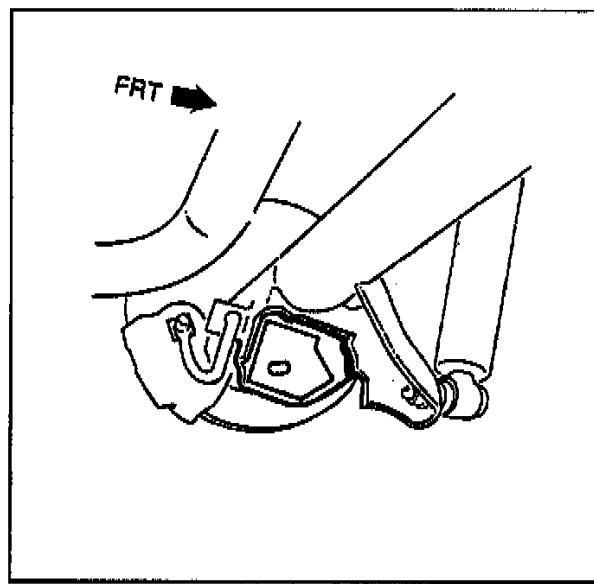

Figure 3
9. Position template on outboard surface of axle control arm bracket as shown in Figure 3. Align hole in template with hole in bracket and insure bottom edge of template is parallel to bottom edge of bracket.